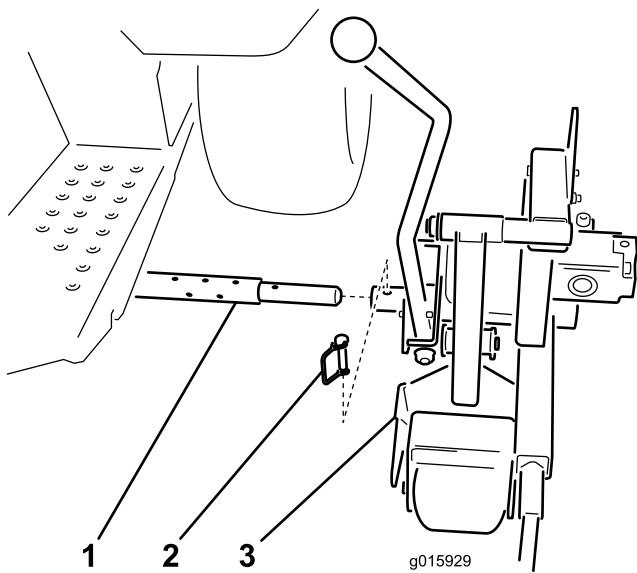

Figure 5
1. Slide the cutter head pivot tube onto the cross tube (Figure 5).
2. Secure the cutter head to the cross tube with the hitch pin (Figure 5).